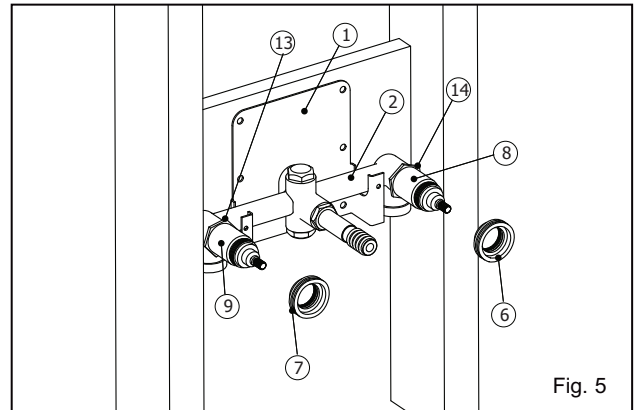
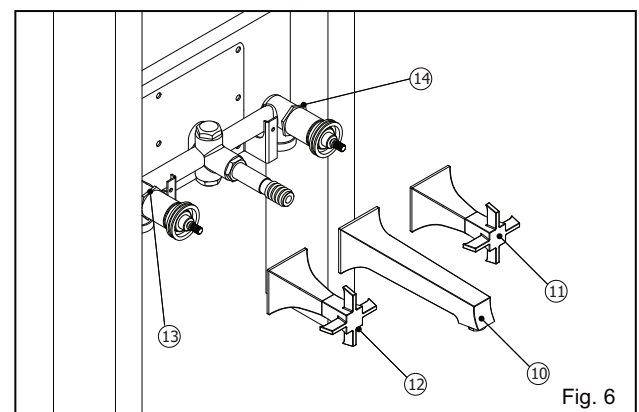

Fig. 5
Fig. 6
A. To carry out an optimal positioning, it is necessary to make a test of assembly before fixing the rough in the wall. It is possible to regulate the depth of the support and the extensions of the handles and the spout by installing the 2 brass insert nuts (6 and 7) on the extensions (8 and 9) of the handles and to temporarily put the rough (2) in the support (1). The maximum distance of the extensions of the handles is 1/2" (12.7mm). It is very important to calculate the thickness of the wall lining (tile, marble...).
B. Thus temporarily put the 2 brass insert nuts on the ROUGH (Fig.5). Add the 2 handles (11) and (12) and the spout (3) (be careful with the chrome finish) (Fig. 6 and 7)